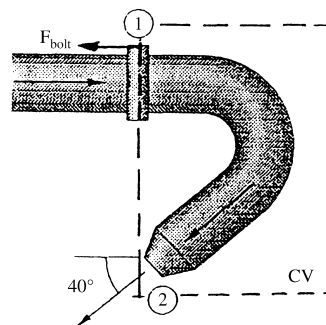

Fig. P3.60
3.60 Water at 20°C flows through the elbow in Fig. P3.60 and exits to the atmosphere. The pipe diameter is $D_1 = 10$ cm, while $D_2 = 3$ cm. At a weight flow rate of 150 N/s, the pressure $p_1 = 2.3$ atm (gage). Neglecting the weight of water and elbow, estimate the force on the flange bolts at section 1.